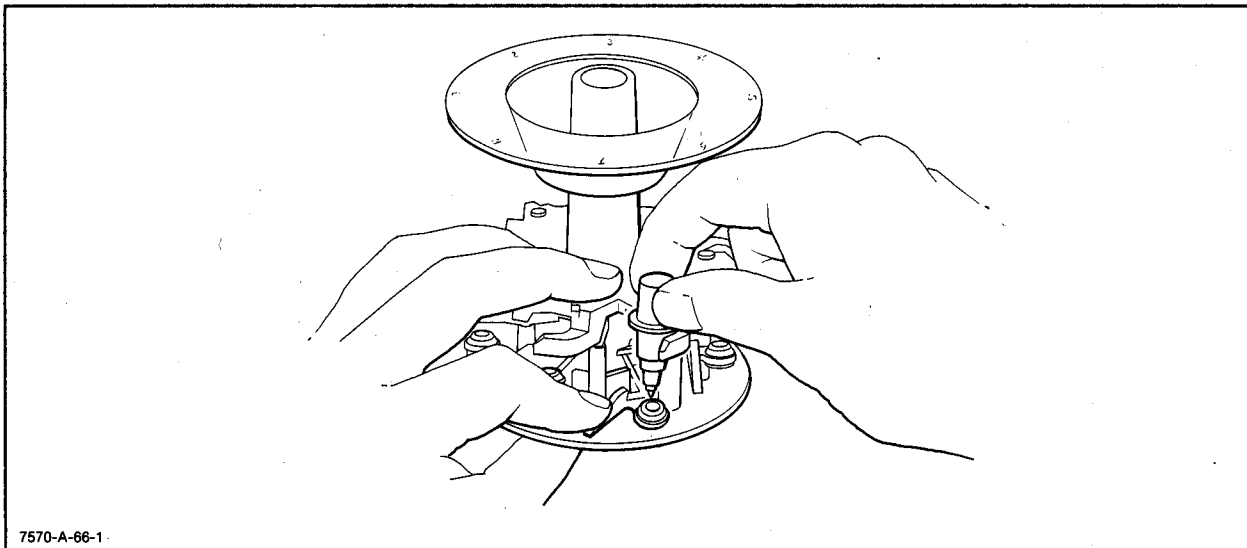

Figure 3-9. Loading Pens
- d. Press down on the pen capper arm and insert the pen. See Figure 3-9.